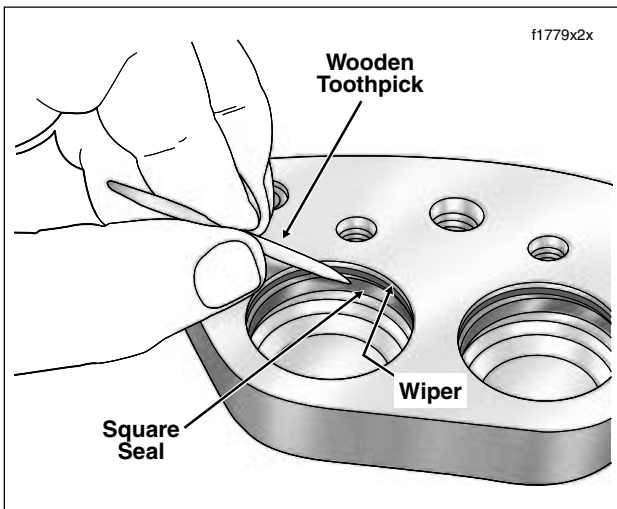

Figure 2-59. Remove Wipers and Square Seals From Piston Bores
7. Using a wooden toothpick, remove wiper and square seal from each piston bore. Discard wipers and seals. See Figure 2-59.